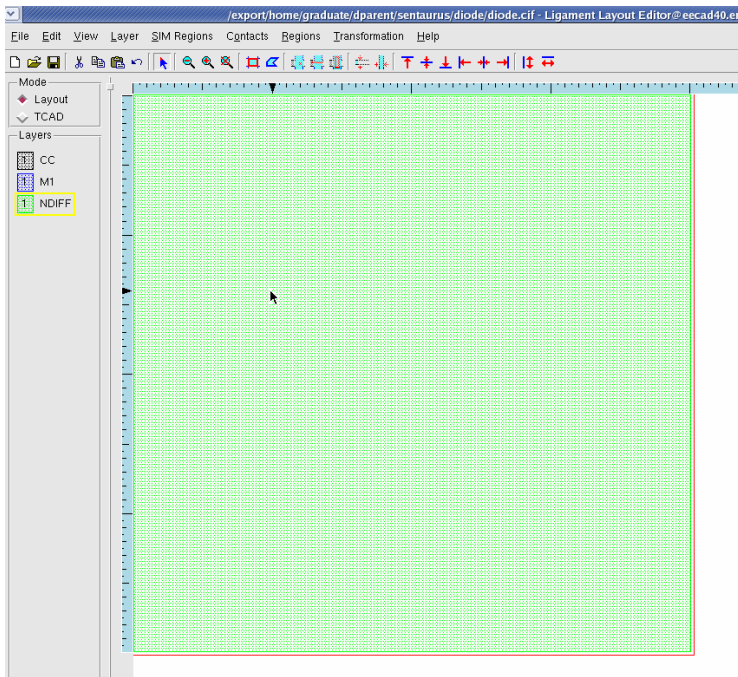

Figure 22: Results of setting the rectangle coordinates to $(0,0)$, $(0,4)$, $(4,4)$ and $(4,0)$.
10. In a similar manner edit the lower right corner to be 4,0 (Figure 22).
11. In a similar manner edit the upper right corner to be 4,4 (Figure 22).